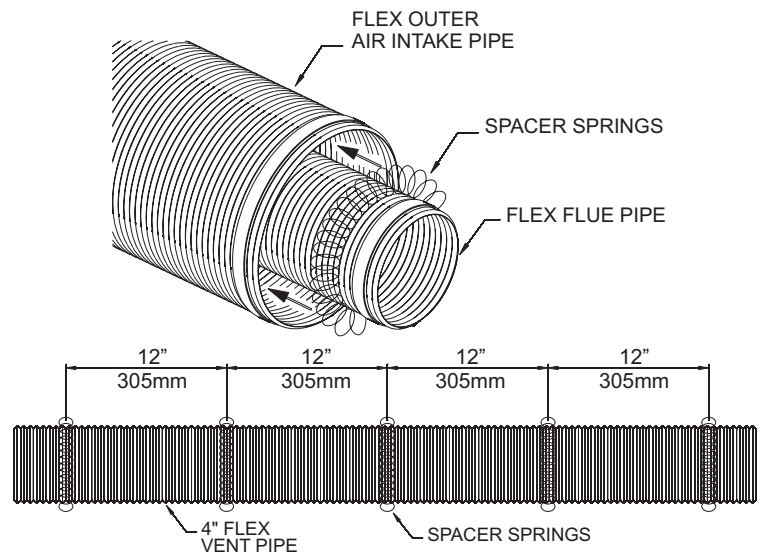

Figure 30
9. Install the spring spacers provided around the 4" diameter flex flue at 1 foot intervals, then slide the flue pipe with spacers into the 7" diameter outer flex vent pipe. Make sure the springs are spaced evenly starting at 12 inches from the fireplace collar. See **Figure 30**.